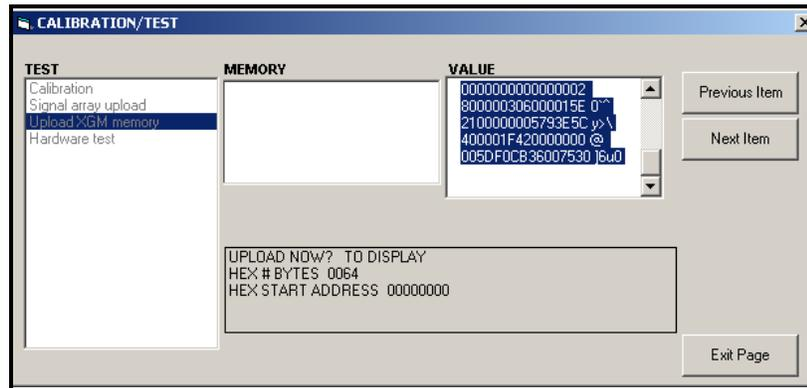

Figure 14: XGF868i Memory Data Displayed on PanaView
- If you double-click on *To Display*, the right pane of the window appears similar to *Figure 14* below, and the data is available for immediate evaluation. Click [Exit Page] to close the window and return to the *Calibration/Test* menu.